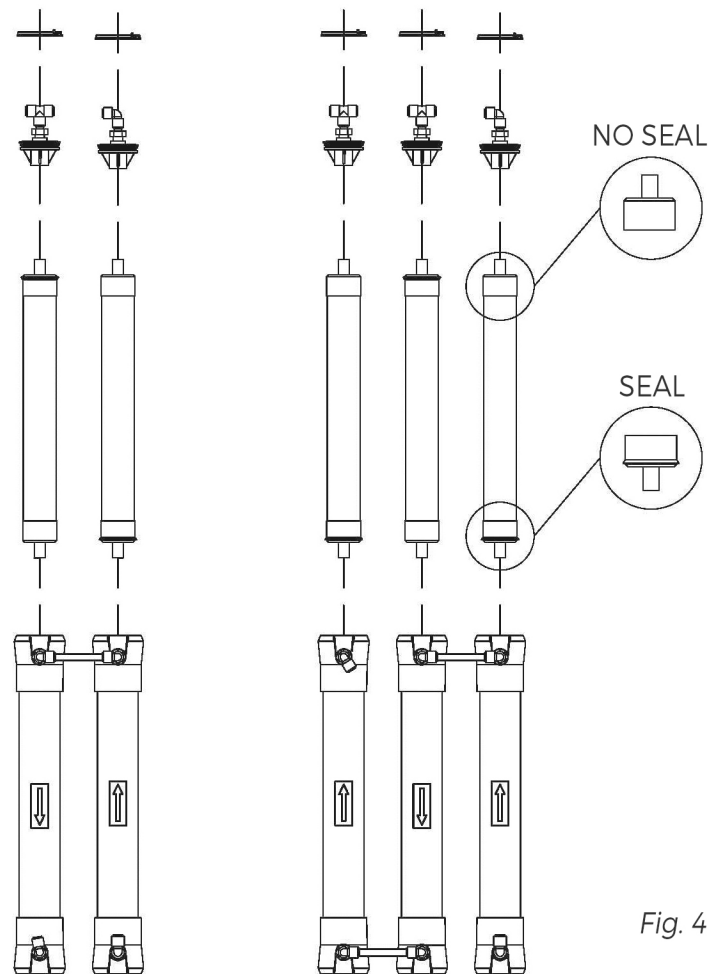

Fig. 4
5. Flow directions should be observed for installation of each element into each housing. (Figure 4, Page 19)
3. Install the brine seal side of the membrane element first (Figure 4, Page 19). When the housings have a direction of flow from bottom to top, the brine seal should be located at the bottom of the housing.